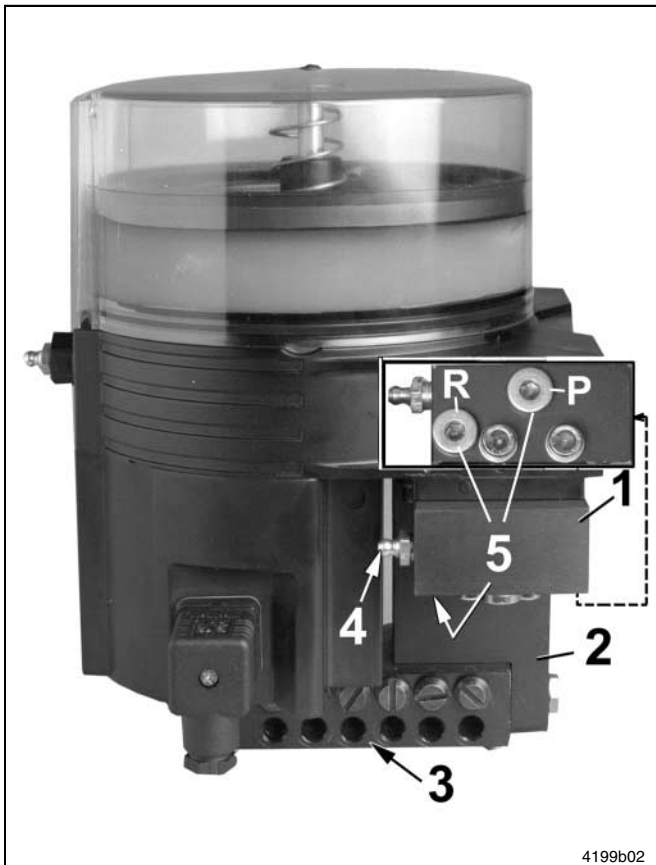

Fig. 20 QLS 301 with bottom position of the SSV divider block
- SSV divider block mounted on the bottom (see Fig. 20)